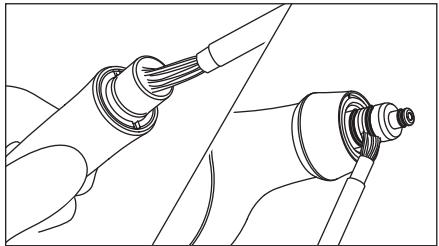

Fig.11
- Carefully clean the inside of the joint section of the handpiece and the O-ring section of the powder case with the attached cleaning brush. (Fig. 11)